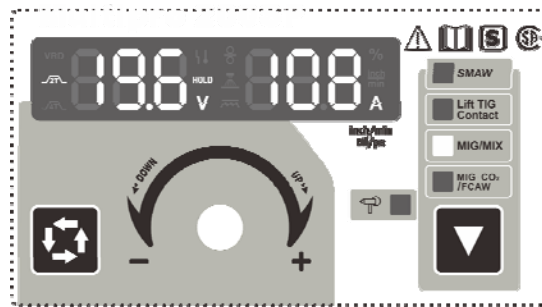

Fig.8 The Status after Stop Welding under MIG Mode
⑦ Releasing the torch switch and stopping welding, the panel displays as **Fig.8**. Moreover,